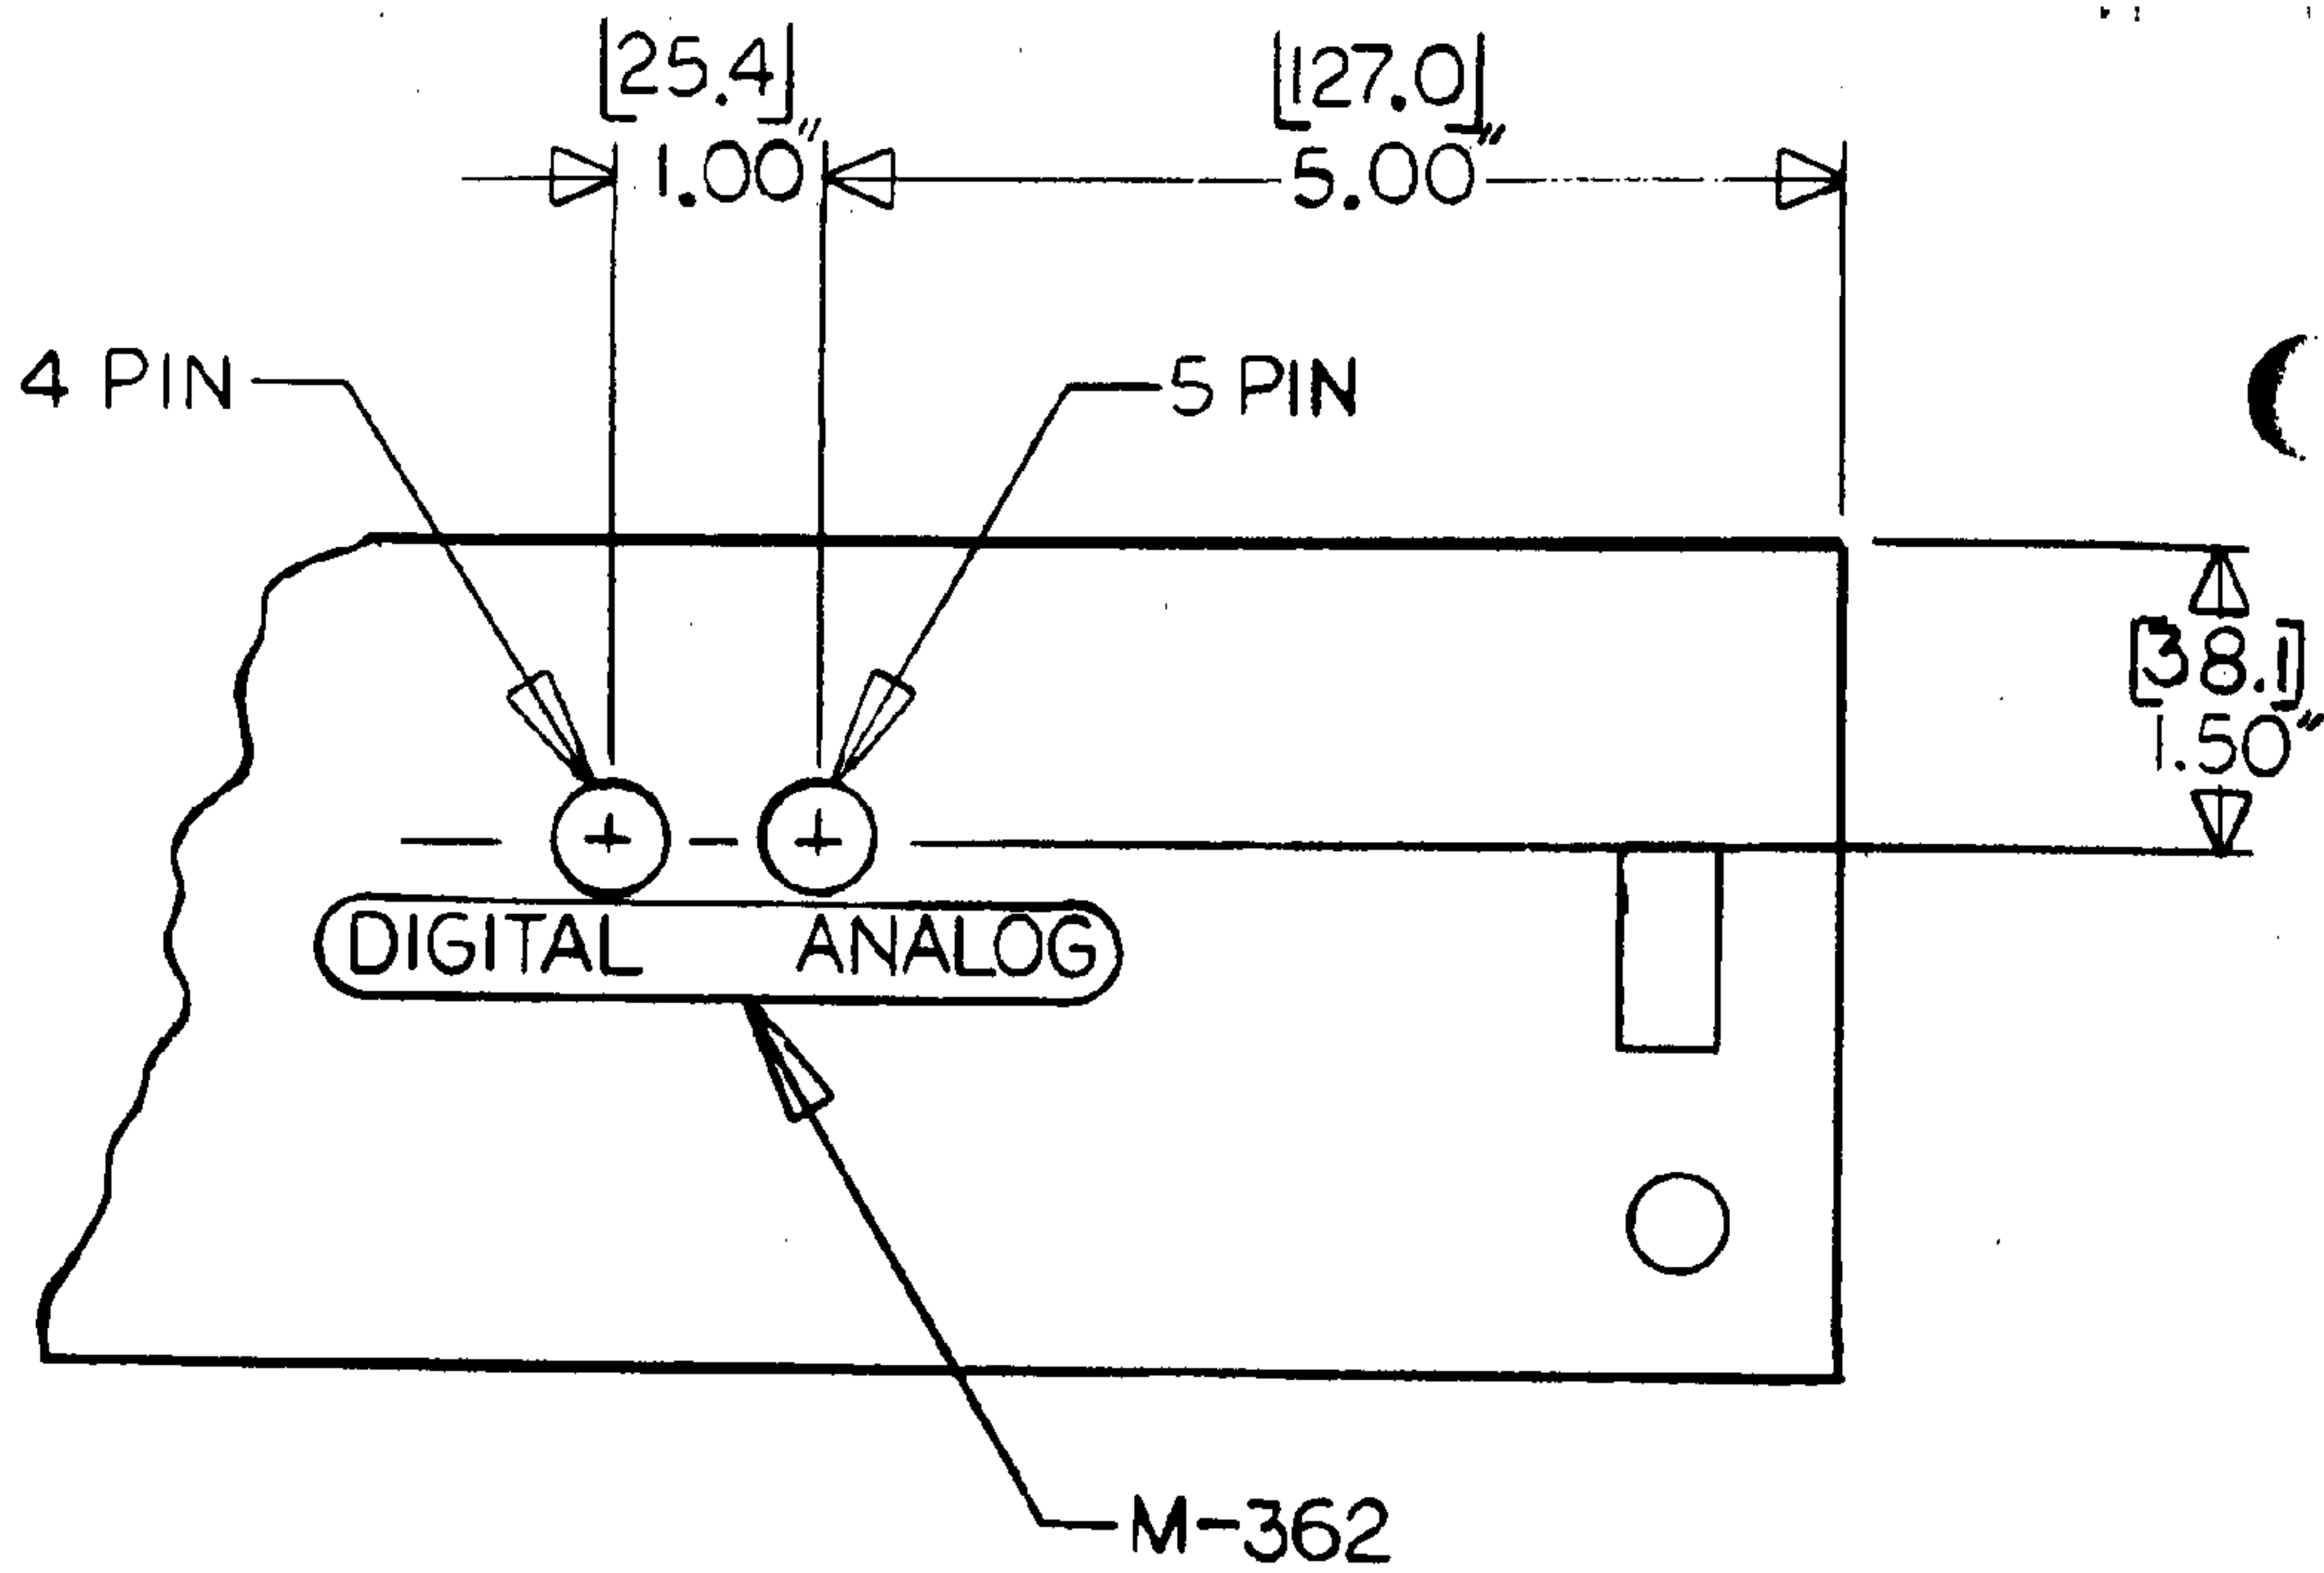
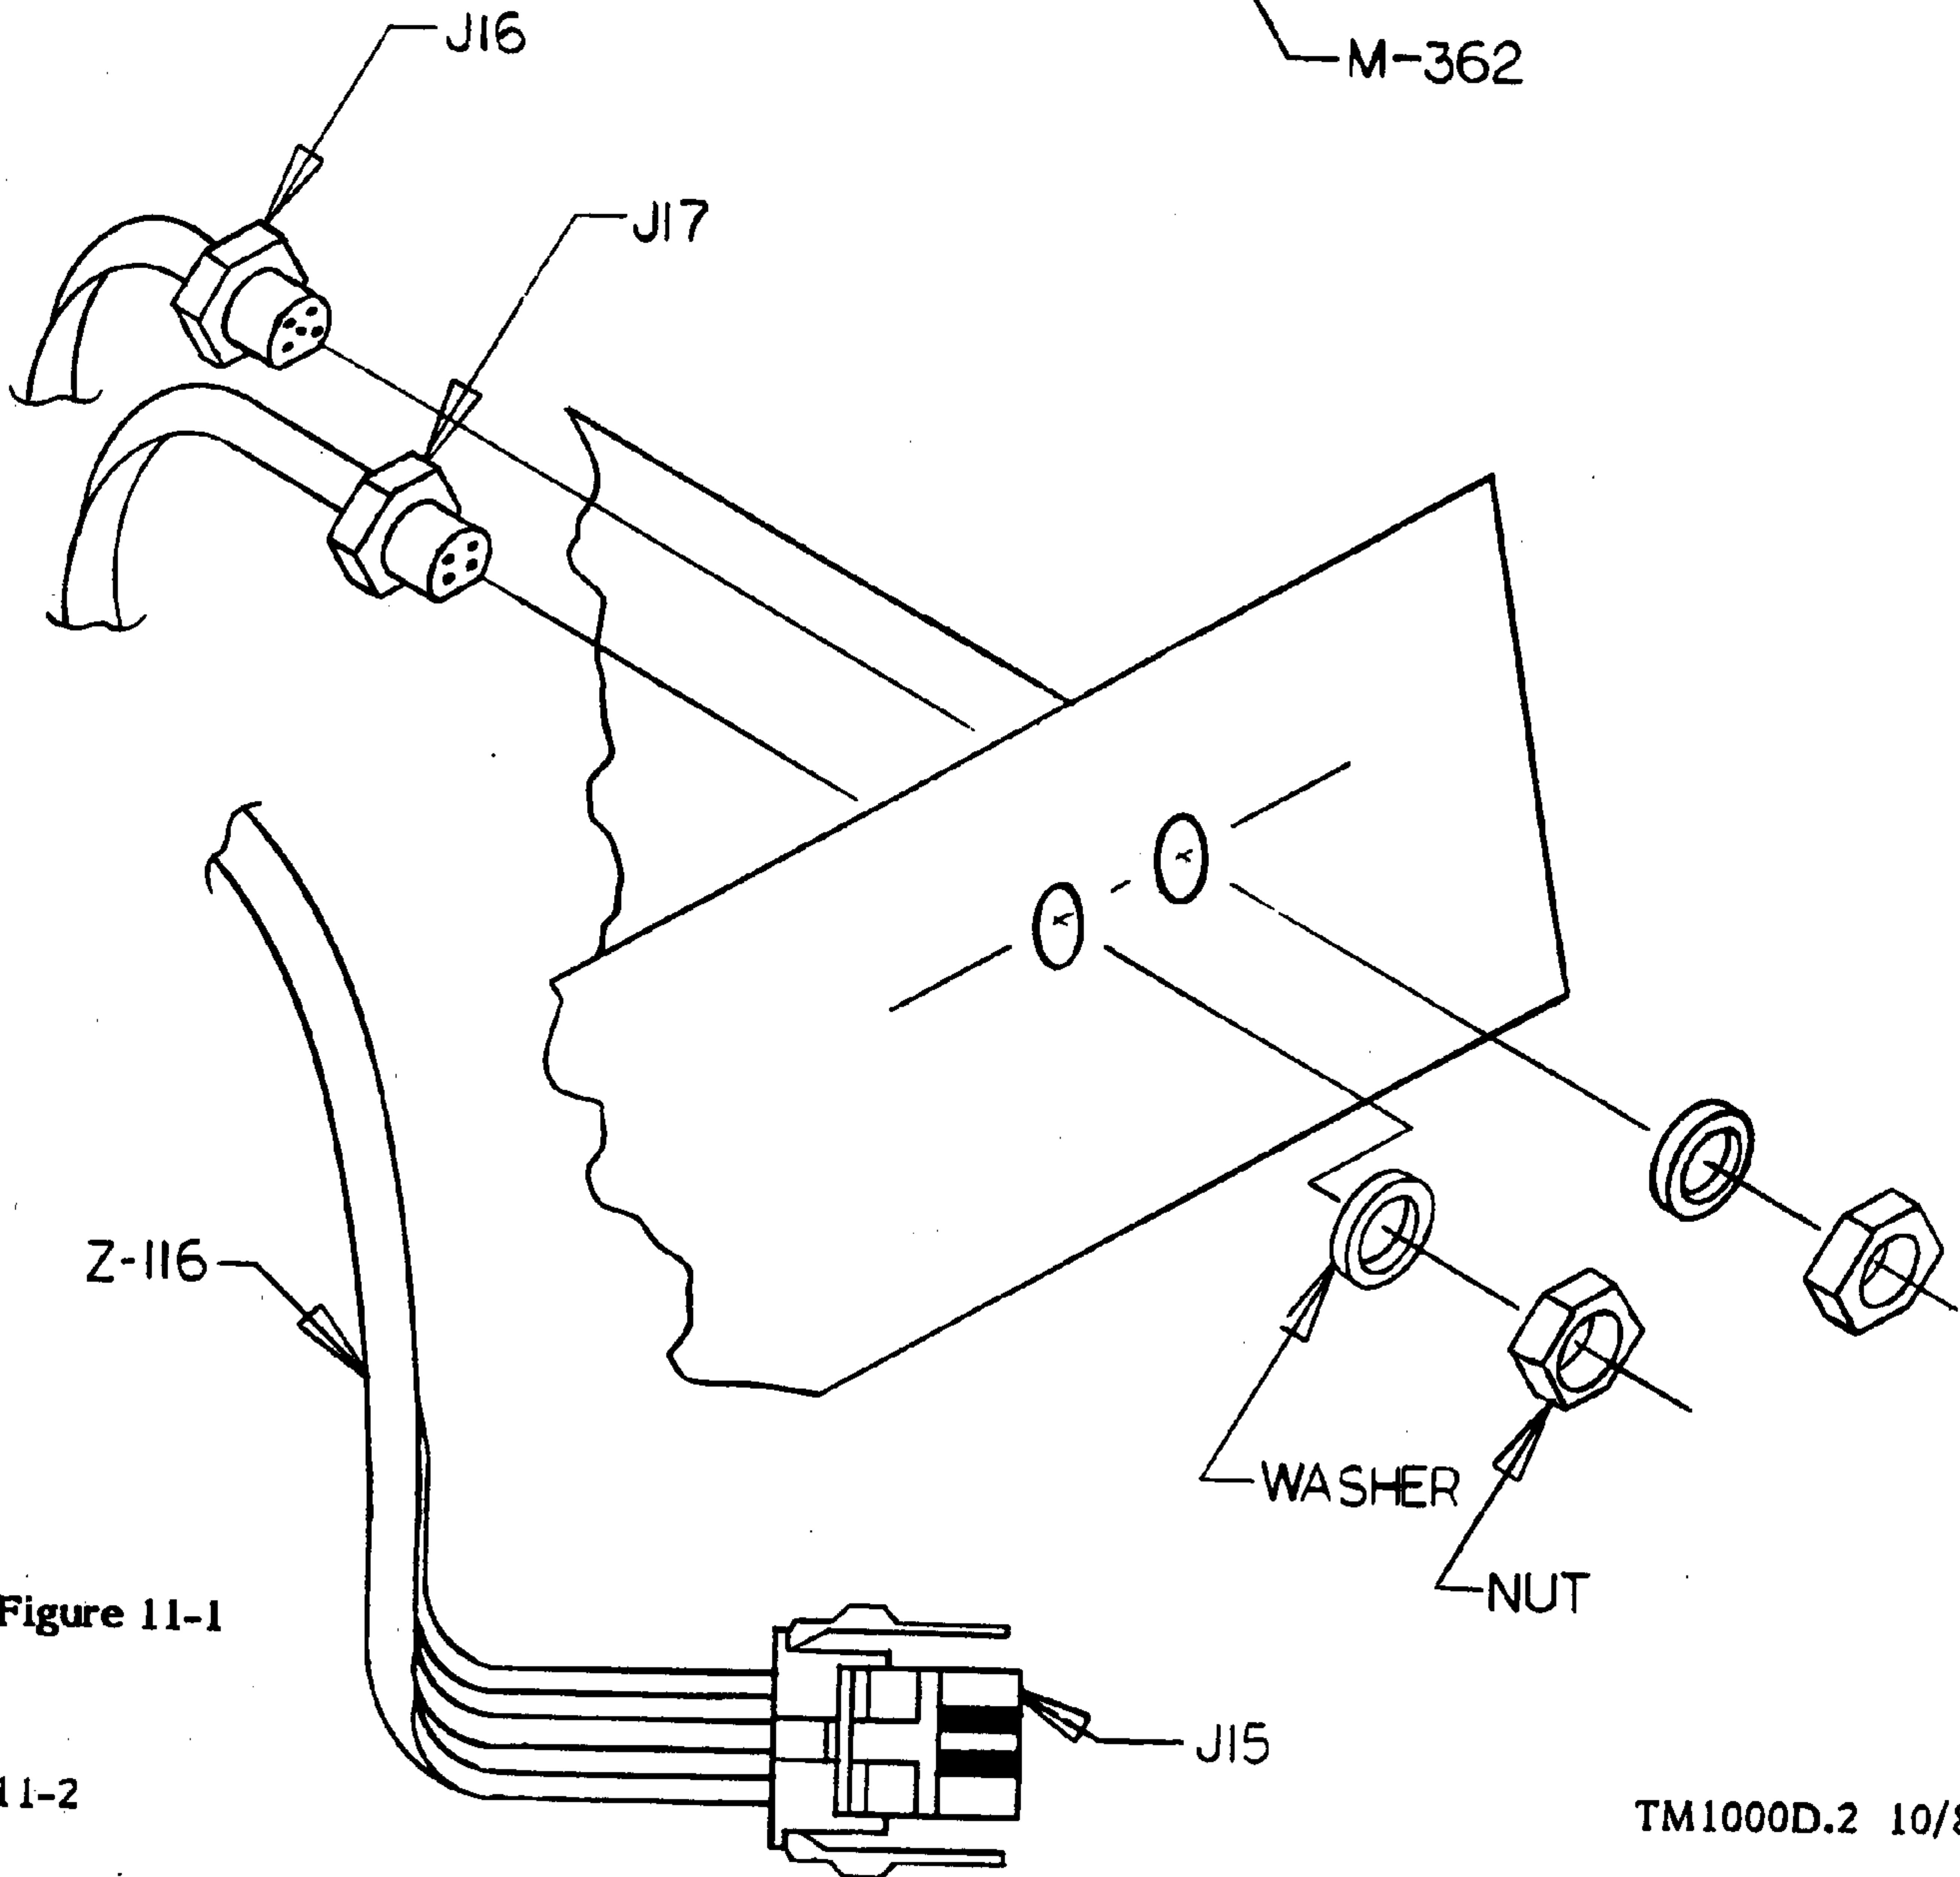

Figure 11-0
Figure 11-1
3. Mark and centerpunch the back panel according to Fig. 11-0.
4. Drill (2) 1/4-inch pilot holes.
6. Mount the jacks according to Fig. 11-1. Make sure that the jacks are mounted in the correct locations, which are the 5-pin jack on the right (toward edge) and 4-pin jack on the left. **Note:** To prevent twisting which could damage the wiring, hold the back of the jack with a wrench when tightening the front nut.
7. Install label (M-362) below jacks as shown in Fig. 11-0.